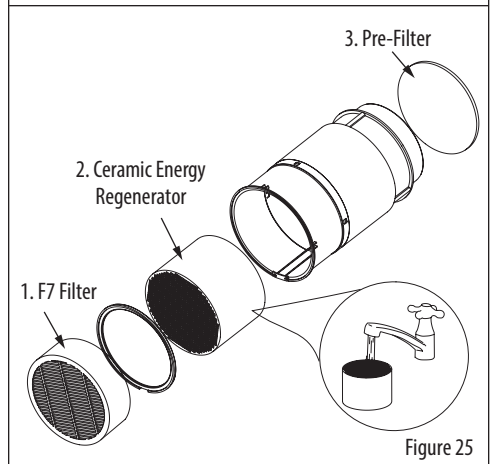

Figure 25
**Filter Maintenance** (Figure 25)